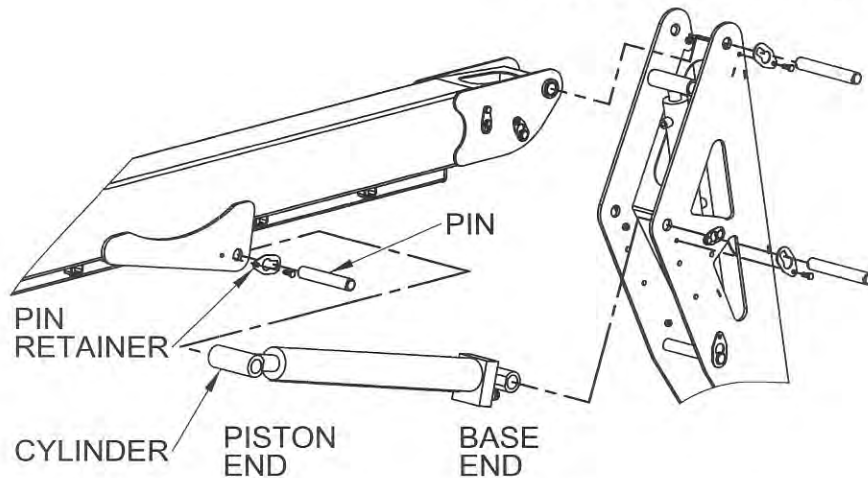

**Figure 5-3. Location of Manual Lowering Valves for Lift Cylinder Replacement**
5533A / HTA 19 P Aerial Work Platforms have three (3) lift cylinders, use the following procedure to remove and replace faulty or damaged hydraulic cylinders. Refer to Figure 5-3 for the location of these cylinders.